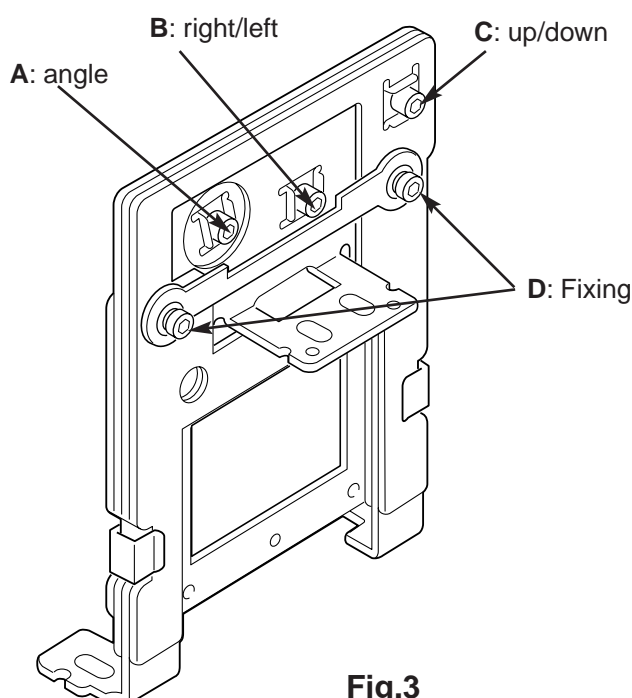

Fig.3
For convergence adjustment, use Green as the reference standard. Align Red and Blue with Green by adjusting the position and angle of the Red and Blue LCD panels. Screws "A", "B", "C" (**Fig.3**) are for convergence adjustment.
2. Loosen 2 screws "D" (**Fig.3**) using the 2.5mm wrench.